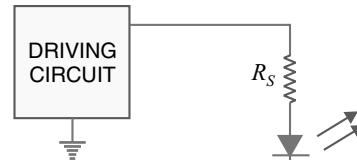

Fig. 5.6
**Example 5.3.** The driving circuit shown in Fig. 5.6 has a peak output voltage of 8 V. The LED has ratings of  $V_D = 1.8 \text{ V}$  to  $2.0 \text{ V}$  and  $I_F(\text{max.}) = 16 \text{ mA}$ . What value of current-limiting resistor  $R_S$  is needed in the circuit ?